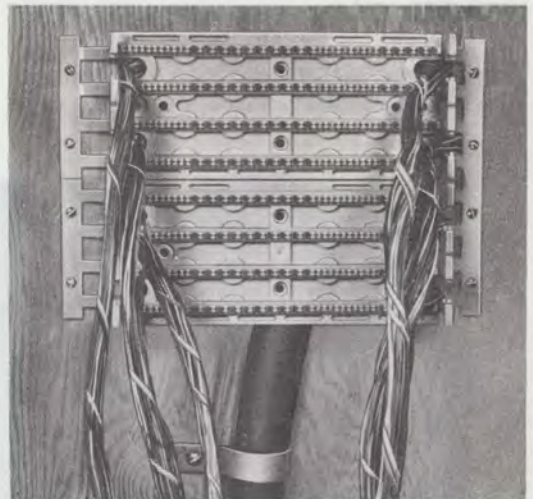

Fig. 16—200-Pair Cable in Cable Slots
**3.08** Remove the cable sheath for multiple binder cables, approximately twice the length of the wiring block, allowing the sheath end to extend under the backboard. The cable is separated into 25-pair groups with their proper identification (color binder). The 25-pair binder groups are threaded through the cable slots provided in the backboard (blue-white through cable slot number 1 to row 1, orange-white through cable slot number 2 to row 2, green-white through cable slot number 3 to row 3, brown-white through cable slot number 4 to row 4, etc (Fig. 16).